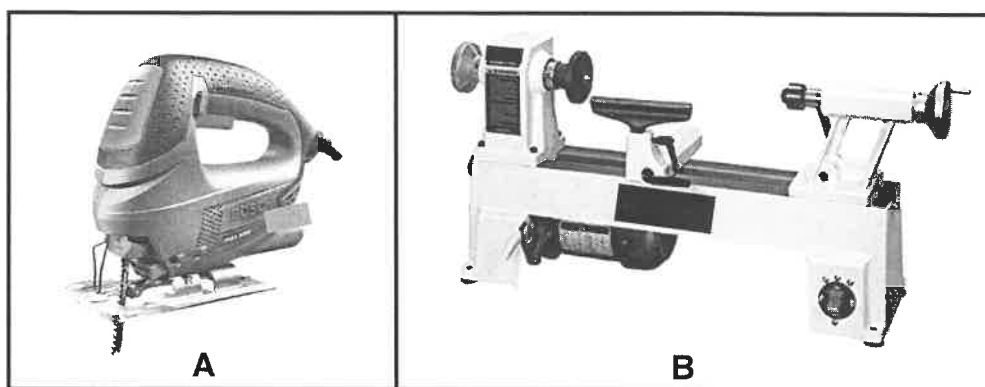

FIGURE 4.1
- 4.1 FIGURE 4.1 below shows two woodworking machines. Study the pictures and answer the questions that follow.